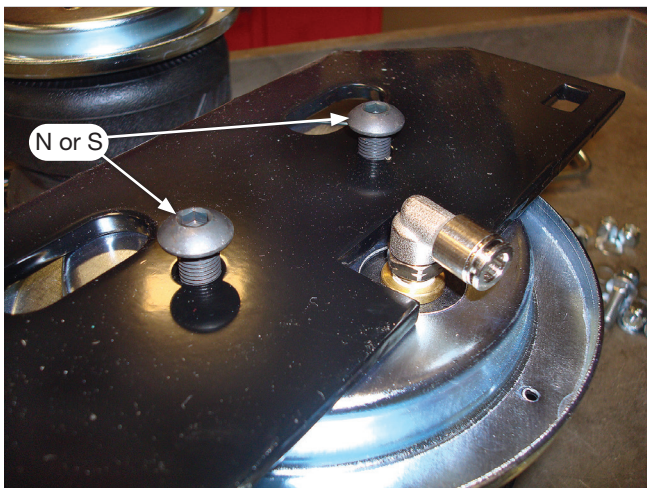

Fig. 8
2. Install the upper air spring brackets (C) onto the air spring assemblies with the 3/8"-24 button head cap screws (N or S) (Fig. 8) and torque to no more than 20 lb.-ft. (27Nm).